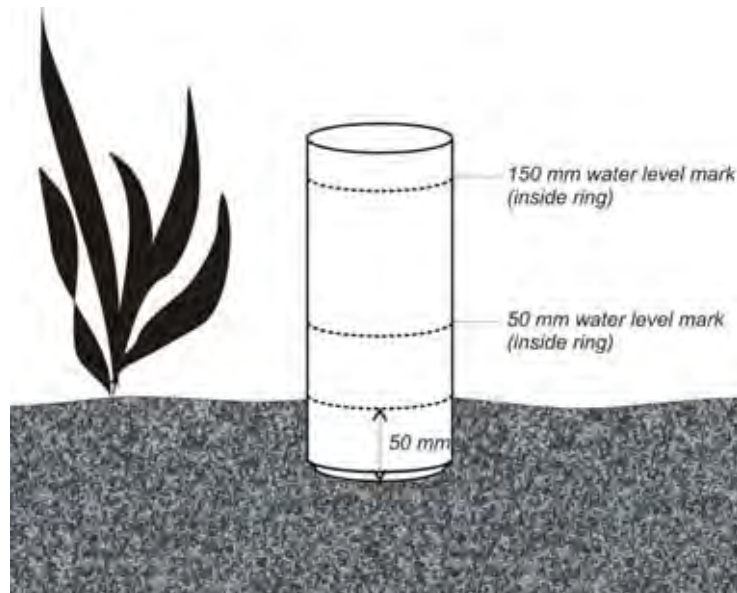

Figure 2. Diagram of single ring infiltrometer
- 100 mm diameter PVC rings with a height of at least 220 mm. The bottom edge of the ring should be bevelled and the inside of the ring should be marked to indicate 50 mm and 150 mm above the filter media surface (Figure 2).